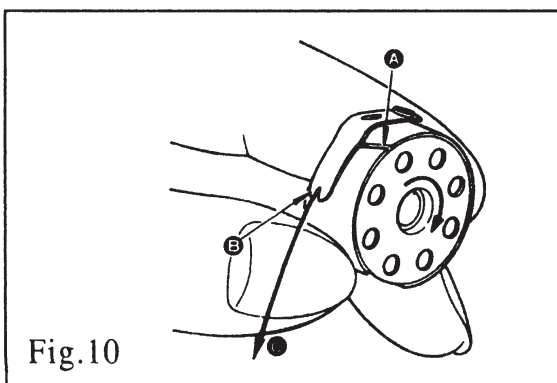

Fig.10
2) Loosen screw ②, and hold needle ① with its indented part A facing exactly to the right in direction B.
4) Securely tighten screw ②.
8. SETTING THE BOBBIN INTO THE BOBBIN CASE (FIG. 10)